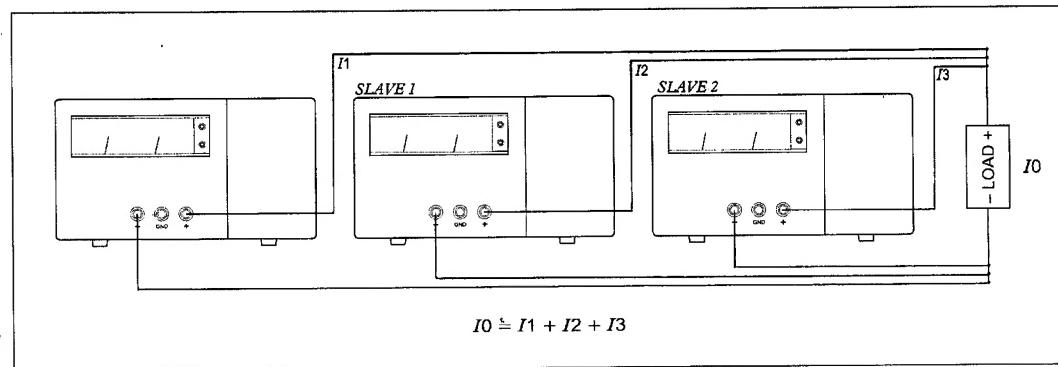

FIG. 6.4
- 4. Connect the output terminals of each of the units to the load as shown in FIG. 6.4 . For proper performance, use all cords of same length.**